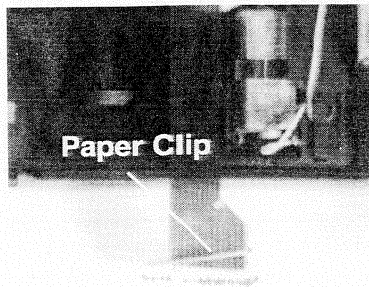

fig. 1
2. Connect paperclip to CDM flexfoil to short-circuit flexfoil (fig. 1)